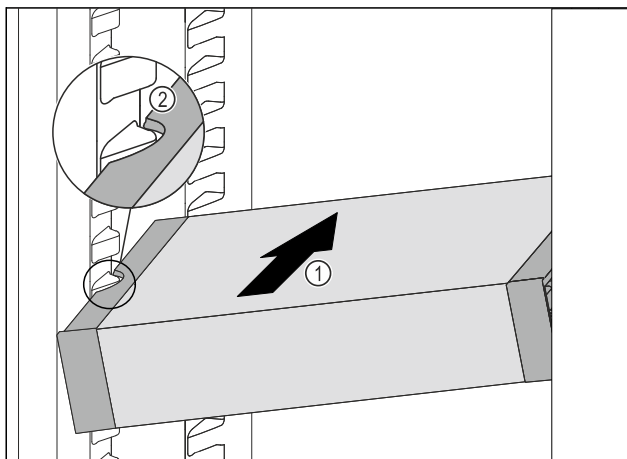

Fig. 103
- Insert the VarioSafe into the fridge section at an angle Fig. 103 (1) until the recesses in the side Fig. 103 (2) of the VarioSafe are at the level of the support rib in the fridge section.